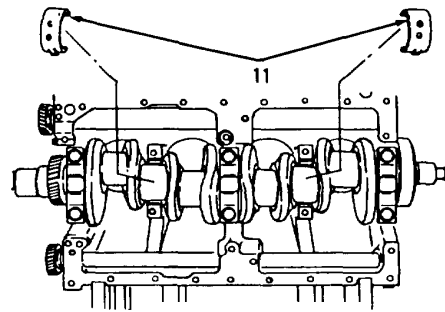

Figure 13-27.
4. Rotate crankshaft and tool against upper half of two intermediate main bearings (11) in direction of normal engine rotation.
5. Remove and discard upper half of two intermediate main bearings (11, Figure 13-27).
4. Position two new upper intermediate main bearings (11, Figure 13-27) in cylinder block above crankshaft journal with bearing tab toward tab locator in block.